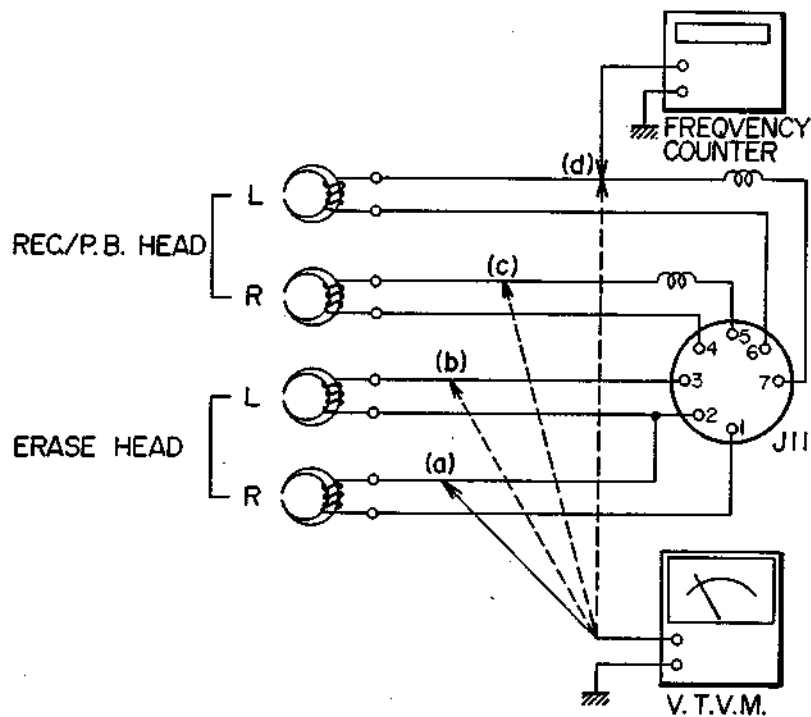

Fig. 12
- b. Connect a frequency counter to point (d) in Fig. 12 of the recording head and read the frequency indication.
2. RECORDING BIAS VOLTAGE (See Fig. 12)
3. ERASE BIAS VOLTAGE (See Fig. 12)